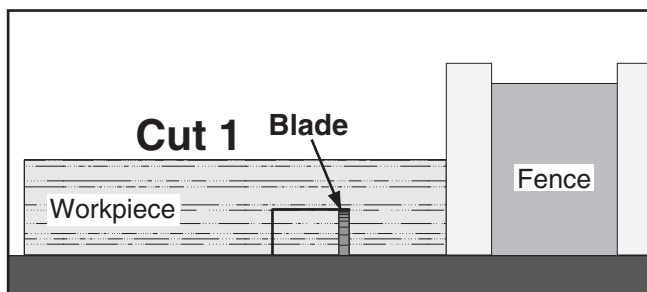

Figure 61. First cut for a single-blade dado.
5. Align blade to cut one side of dado, as shown in **Figure 61**.